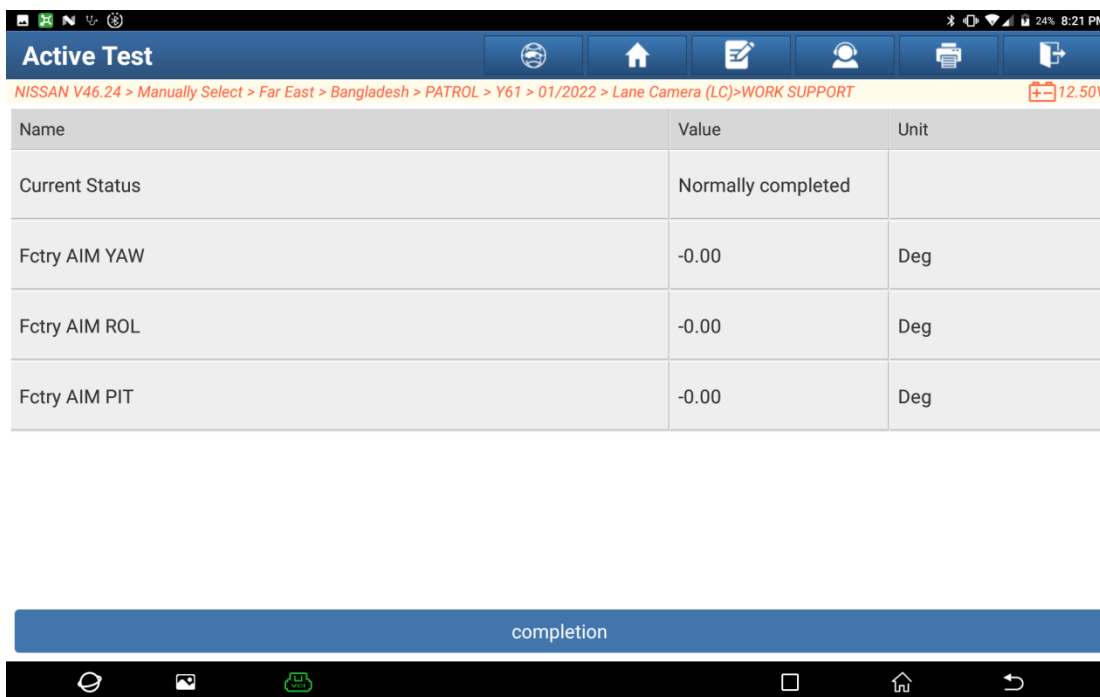
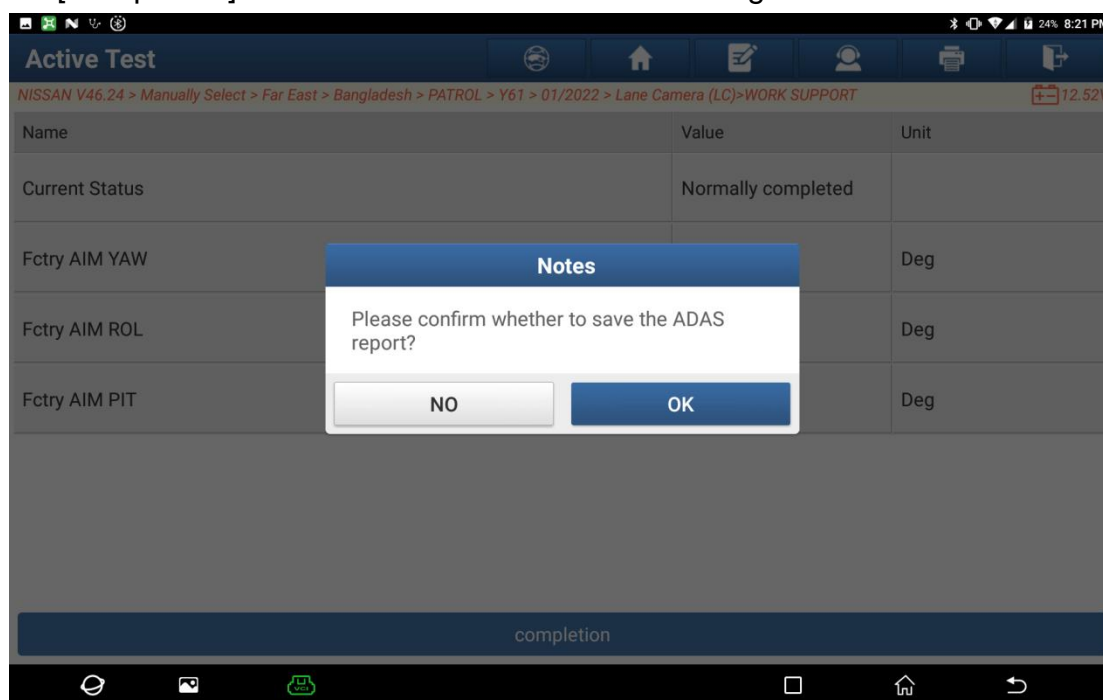

Figure 17
Figure 18
17. In the interface of Figure 16, click each item field and enter the corresponding data according to the prompts. After entering all data, click the [Start] button to begin calibration and enter the interface. See Figure 17.
18. After the calibration is completed as shown in Figure 17, click the [Completion] button to enter the interface. See Figure 18.